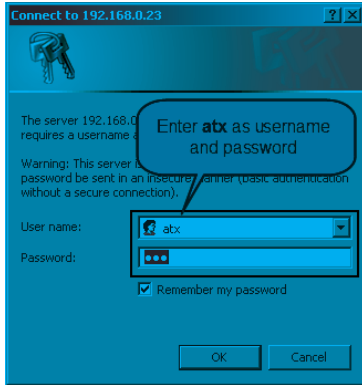

Figure 12-7: Login
2. When the login screen appears, enter **atx** for both the Username and Password, see Figure 12-7.